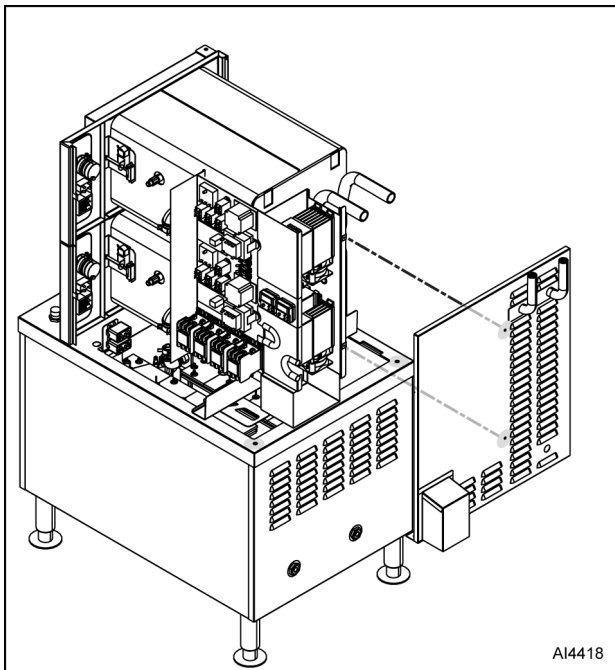

Fig. 6
6. Remove four screws as noted in Fig. 6